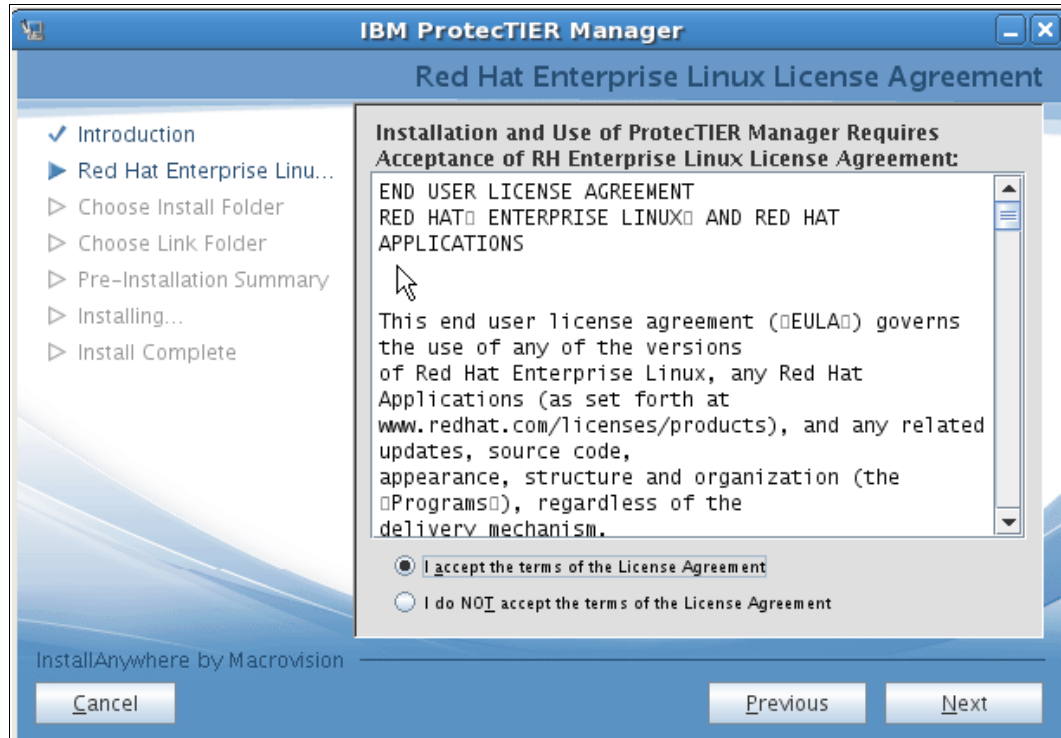

Figure 5-12 Red Hat Enterprise Linux License Agreement
9. Select **I accept both the IBM and non-IBM terms** and click **Next**. The Red Hat Linux Enterprise Linux Agreement window opens (Figure 5-12).